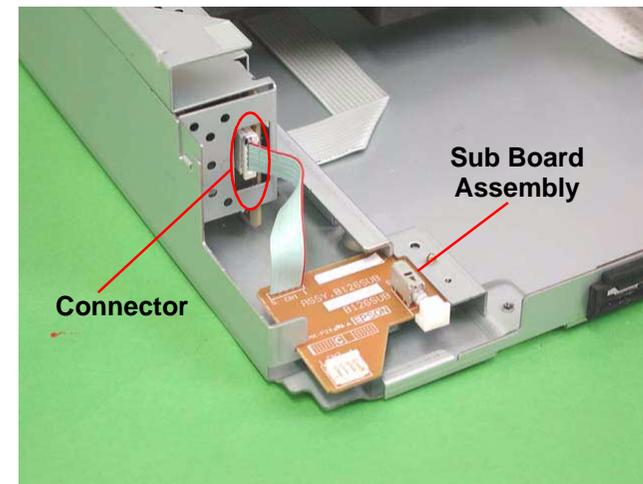

Figure 4-30. Sub Board Removal (2)
3. Remove the cable of the sub board from the power supply board connector (See figure 4-30)